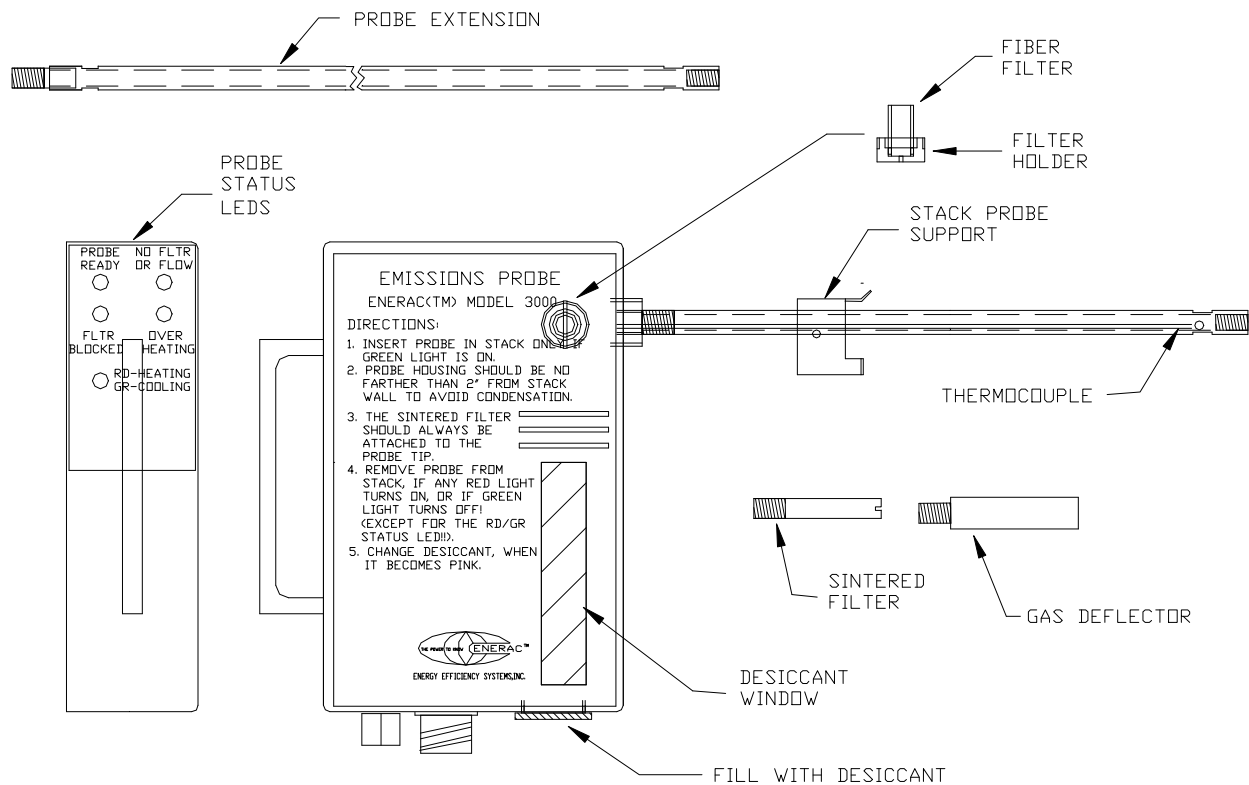

FIGURE 7
- b. A 13" piece of extension inconel tubing to be used with stacks having a diameter larger than 24". The extension tubing screws on the above piece to increase the effective probe length to 24". Figure 7 below shows the various components of the probe.
- a. **The secondary fiber filter.** This is a small cylindrical 0.5 micron glass fiber filter for the removal of the finer particles from the gas stream. It is accessed from the side of the probe (see Figure 7). This filter should be replaced periodically.